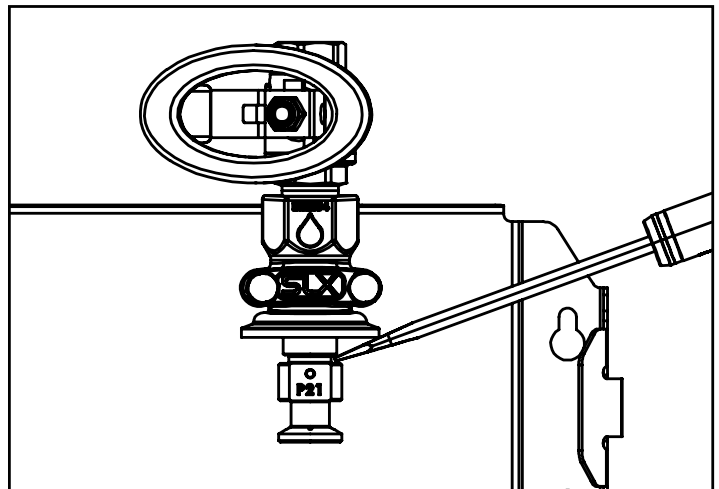

Fig. 7.2: Pump Fed insert removal using screwdriver
- A screwdriver can be used to pry the insert out if necessary [Fig. 7.2]